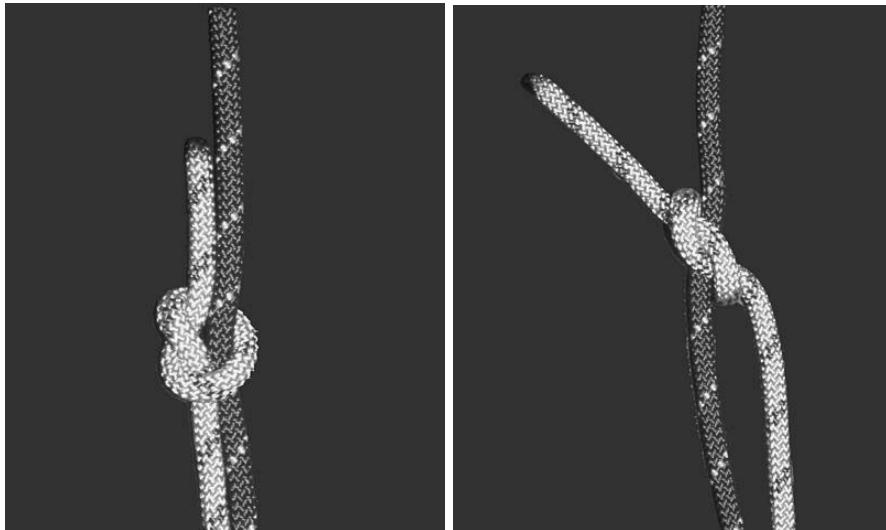

Figure 8. Inside (left) and outside (right) forms of the overhand backoff.
- A double overhand is the best stopper knot; a figure 8 on a bight will also provide a footloop.
- Fixed loops are usually used to rig in these situations. Usually a figure 8 on a bight or a mountaineering bowline knot is tied. A mountaineering bowline on a coil can be used to distribute the load across more area.
- Bolts are usually set in pairs. Bolts are usually rigged using a double figure 8 on a bight or a bowline on a bight (Figure 6).
- The third way to rig to bolts is with a figure 8 on the end of the rope and a long alpine butterfly on the other. This should still be equalized properly. This configuration is useful for bolts that are set far apart.
Figure 8 on a bight in 'bunny ear' configuration
Overhand Knot Square Knot Water Knot Double Fisherman's Bend Bowline Mountaineering Bowline Bowline on a Coil Bowline on a Bight Figure Eight Figure Eight on a Bight Double Figure 8 Alpine Butterfly Helical Prusik Munter Hitch	Mule Knot Double Tucked Sheet Bend Figure Nine Load Releasing Hitch Inline Figure Eight Trucker's Hitch Clove Hitch
There are two subtly different ways to tie an overhand knot around another rope as a backoff knot. The two ways are referred to as **Inside** and **Outside** (Figure 8), and are dependent on how the backoff knot is oriented around the main line. In the images below, the inside form is on the left and the outside form is on the right. The inside knot is preferred for being more compact.
The Double Figure 8
The double figure 8 is a knot used when rigging to 2 bolt anchors that need to be used to share the load between them. It's excellent when you need two loops of different sizes to properly equalize the rig. It can be tied either as an End-line anchor knot or a Mid-line knot. Compared to a Bowline on a Bight, it is less prone to collapsing. However it is bulkier, uses more rope, and is slightly harder to adjust loop size.
Tying a Double Figure 8 Knot